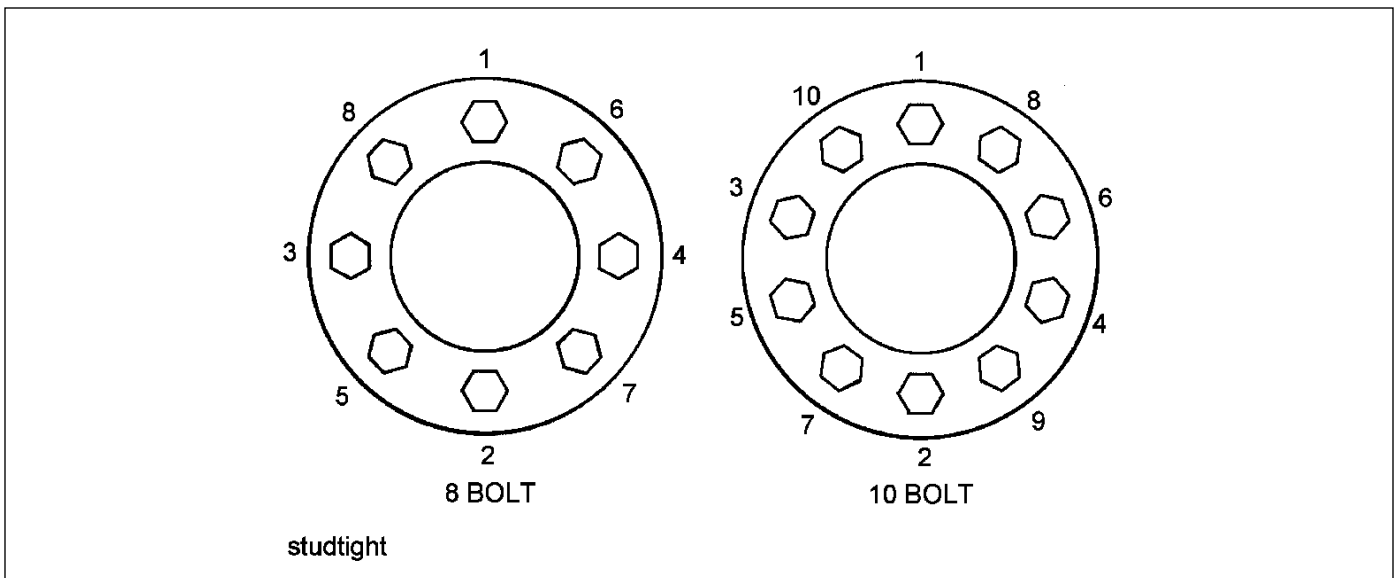

Figure 4-16: Stud Tightening Sequence
3. Install the inner capnuts on the studs and tighten to fifty foot-pounds using the sequence illustrated in **Figure 4-16**. Make certain that the left-handed threads are installed on the driver side of the vehicle and the right-handed threads are installed on the curbside of the vehicle.
4. Tighten the inner capnuts to full torque of 450 to 500 foot-pounds using the sequence shown in **Figure 4-16**.
6. Install the outer capnuts and tighten to 50 foot-pounds using the sequence in **Figure 4-16**. Then tighten to full torque of 450 to 500 foot-pounds using the same sequence.
Improper tightening sequence	Follow proper tightening sequence (See Figure 4-16. )